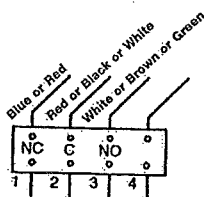

Fig 1
- Single pole changeover - see figure 1.